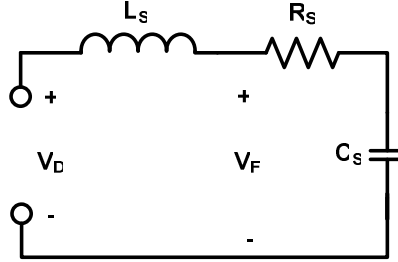

Figure 13 — Simplified Equivalent Circuit for RC Snubber Network ($C_P=0$)
The analysis model of R_S impact on $V_F(t)$ is much more complicated than C_S , due to the C_S value is always selected much larger than C_P , figure 13 and (8) shows an simplified model for R_S which neglects the C_P impact.